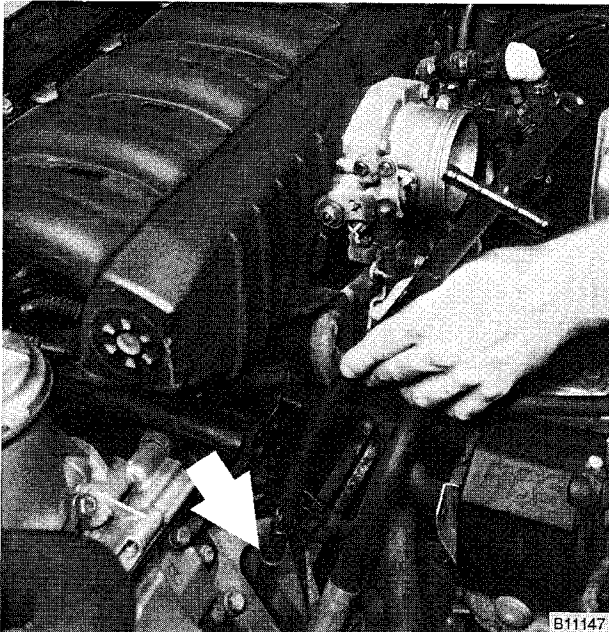

Fig. 10. Oil dipstick guide tube being removed. Use new O-ring (arrow) during installation.
6. Remove oil dipstick guide tube mounting bolt. Disconnect oil separator hose from base of guide tube and remove tube from oil pan (where applicable). See Fig. 10.